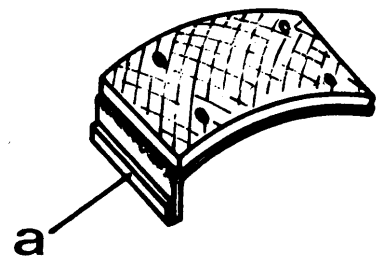

Fig. 8/7c
- 1) Insert the clutch shoes into the slits of the clutch driver in such a manner that they will be **pushed** by the driver and **not pulled** (see figs. 8/7a, 8/7b).